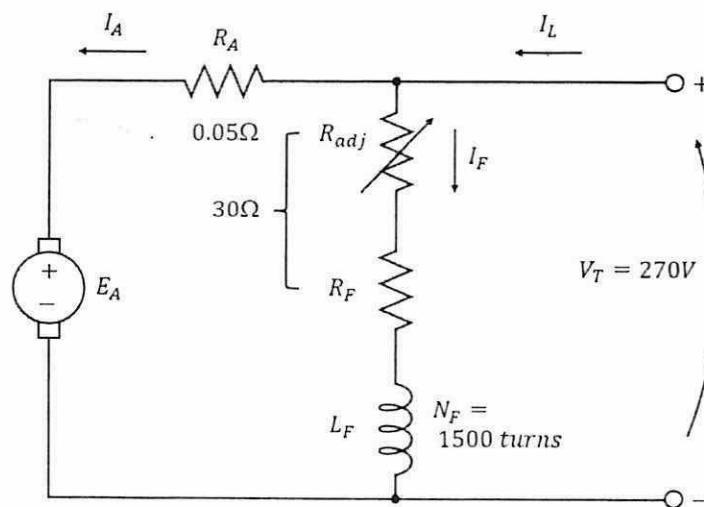

Figure Q3(c)
- (c) A DC shunt motor with compensating windings as shown in **Figure Q3(c)** has a rating of 70 hp, 270 V and 1350 rpm with an armature resistance of 0.05Ω . The field circuit, $R_{adj} + R_F$ has a total resistance of 30Ω which produces a no-load speed of 1400 rpm while the shunt field winding has 1500 turns per pole.